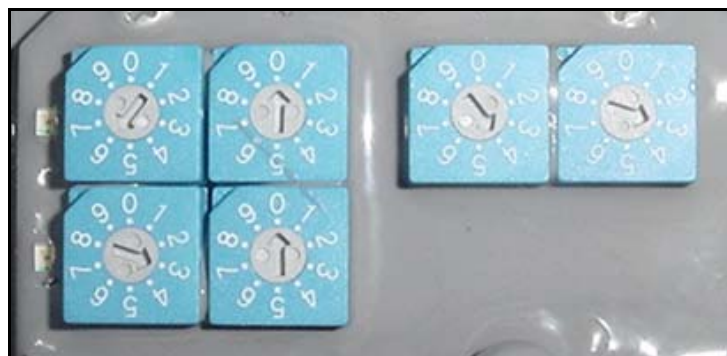

Figure 21 = Default Settings
**NOTE:** The NOS WOT/window switch is preset to activate the TPS at 4.3 volts. The rpm portion of the WOT/Window switch activates the solenoids at 3000 rpm, and turns them off at 6000 rpm. This is the recommended factory preset for the WOT/Window switch. To verify the WOT/Window switch operation or to troubleshoot this switch refer to the WOT/Window switch troubleshooting section. See Figure 21.